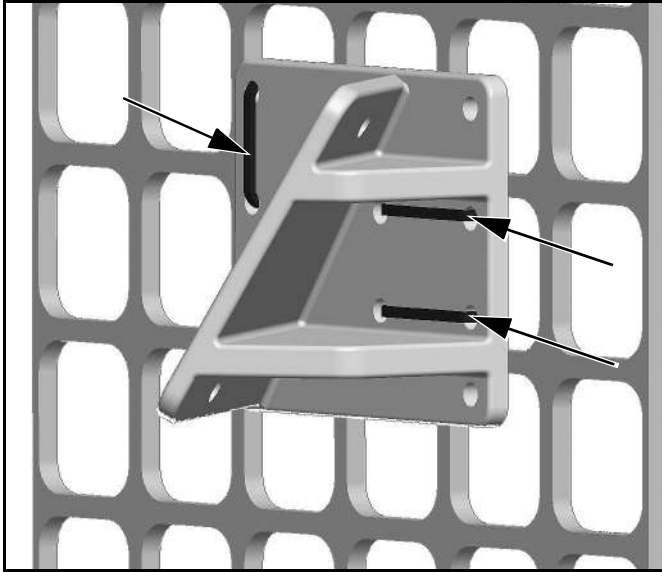

Figure 26
1. Install Plow Control Bracket onto skid steer window with three tie straps. (See Figure 26)